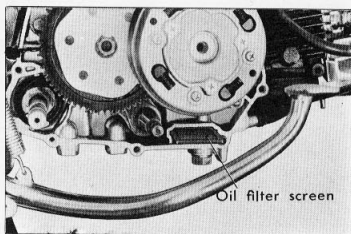

Figure 6-20. Cleaning oil filter screen
- (2) Remove the right crankcase cover, pull out the oil screen and wash in gasoline. (Fig. 6-20)